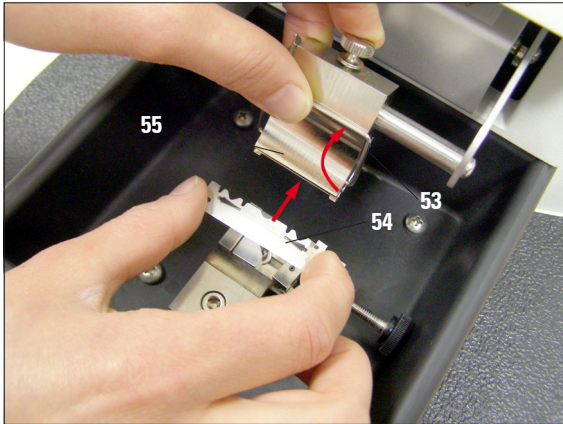

Fig. 52
- First, push the spring clip (53) upwards using your left thumb (Fig. 52).